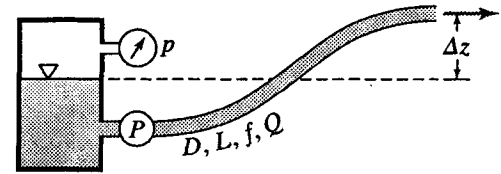

Figure P15.49
- 15.49 Water at 170°F is pumped through a 15-in-diameter pipe ($f = 0.028$) 2000 ft long from a large pressurized tank ($p = 30$ psi) whose water surface is at elevation 200 ft to a point of discharge in the atmosphere at elevation 242 ft (Fig. P15.49). (a) If the flow rate is 5800 gpm, find the head that a pump, placed in the pipeline and rotating at 1200 rpm, must develop and determine the specific speed of the pump. Assume the pressure in the tank remains constant and neglect minor losses. (b) Approximately what will be the diameter of the impeller? (c) At what elevation must the pump be set to safeguard against cavitation if the head loss from the tank to the pump is 1.6 ft?